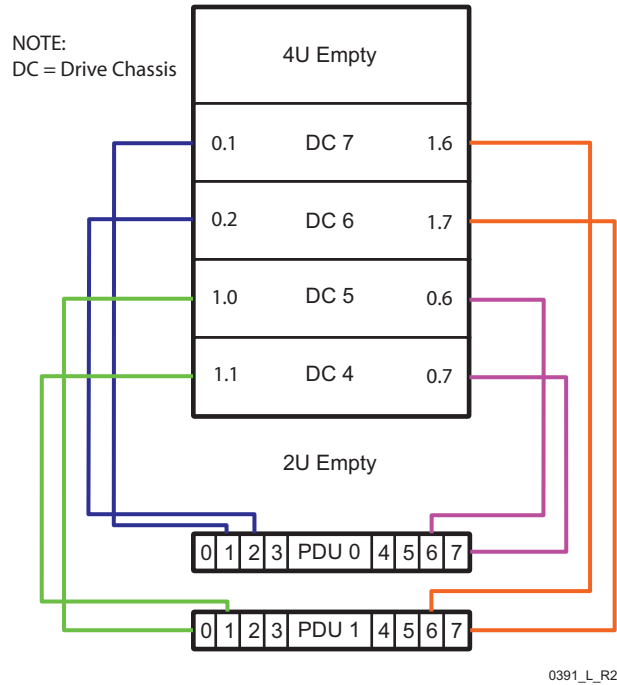

Figure 21-3. A Valid Redundant Power Configuration Diagram (1M Expansion Cabinet)
- Figure 21-3 illustrates a valid redundant power configuration in a 1M expansion cabinet. For more information on redundant power, see the *3PAR 3PAR InServ E-Class Storage Server Installation, Deinstallation, and Upgrade Guide*.